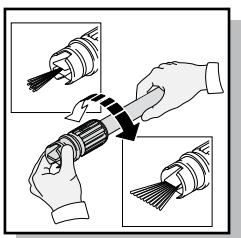

Fig. 8
- When using the adjustable spray lance, the spray pattern and intensity can be controlled according to power of water needed for each task by twisting the spray nozzle at the far end of the lance (Fig. 8). These can be used for sweeping leaves or debris from flat surfaces or curbing. This lance has the widest variety of applications as the fan degree allows for good impact pressure and cleaning coverage.